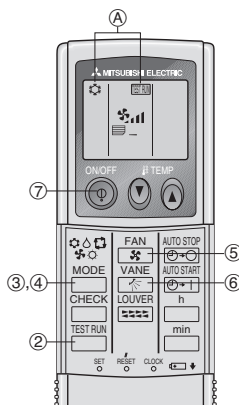

Fig. 7-2
7.2.2. Using wireless remote controller (Fig. 7-2)
- ① Turn on the power to the unit at least 12 hours before the test run.
- ② Press the button twice continuously. (Start this operation from the status of remote controller display turned off.)